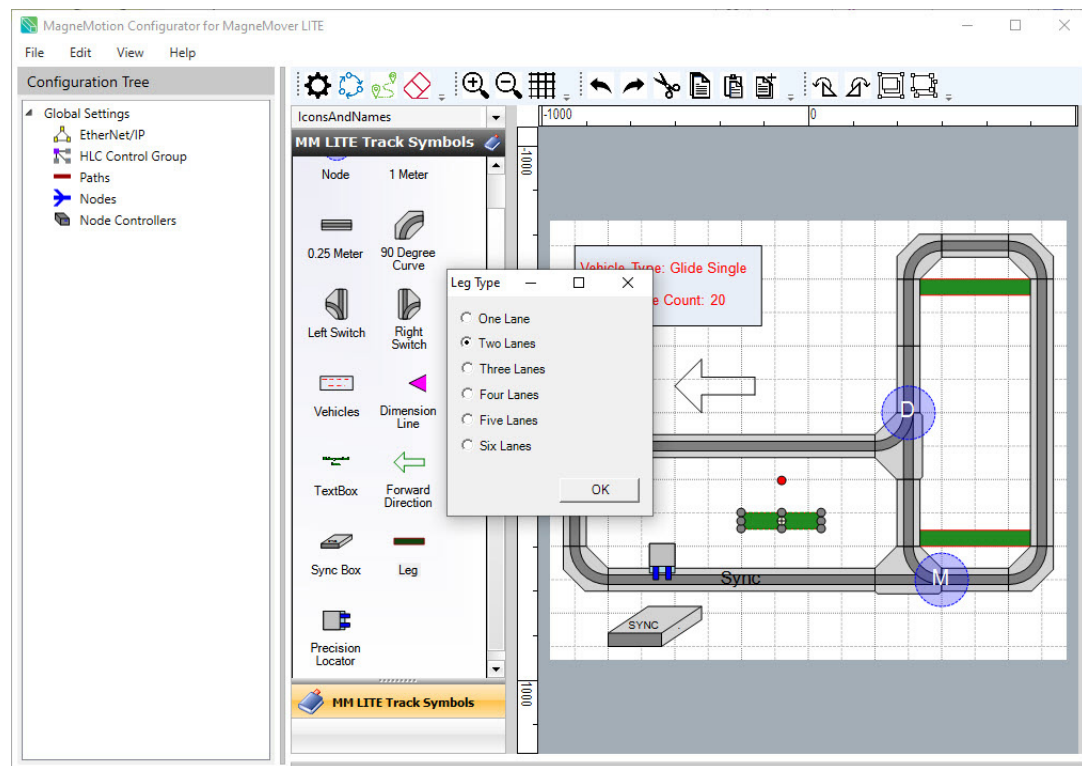

Figure 3-23: Leg Type Dialogue Box
This section describes how to define the locations for the Legs in the Layout Area. Legs should be located every two motor joints or 1.5 meters (4.92 ft), whichever is less (Figure 3-23 shows a typical leg installation for a small system). Use tighter leg spacing as
required by the system. Use spanning Legs that support multiple parallel motors where possible (see Figure 3-23) since they increase system stability.
2. Right-click on the **Leg** and select the **Leg Type** that is needed at that location, see Figure 3-23.